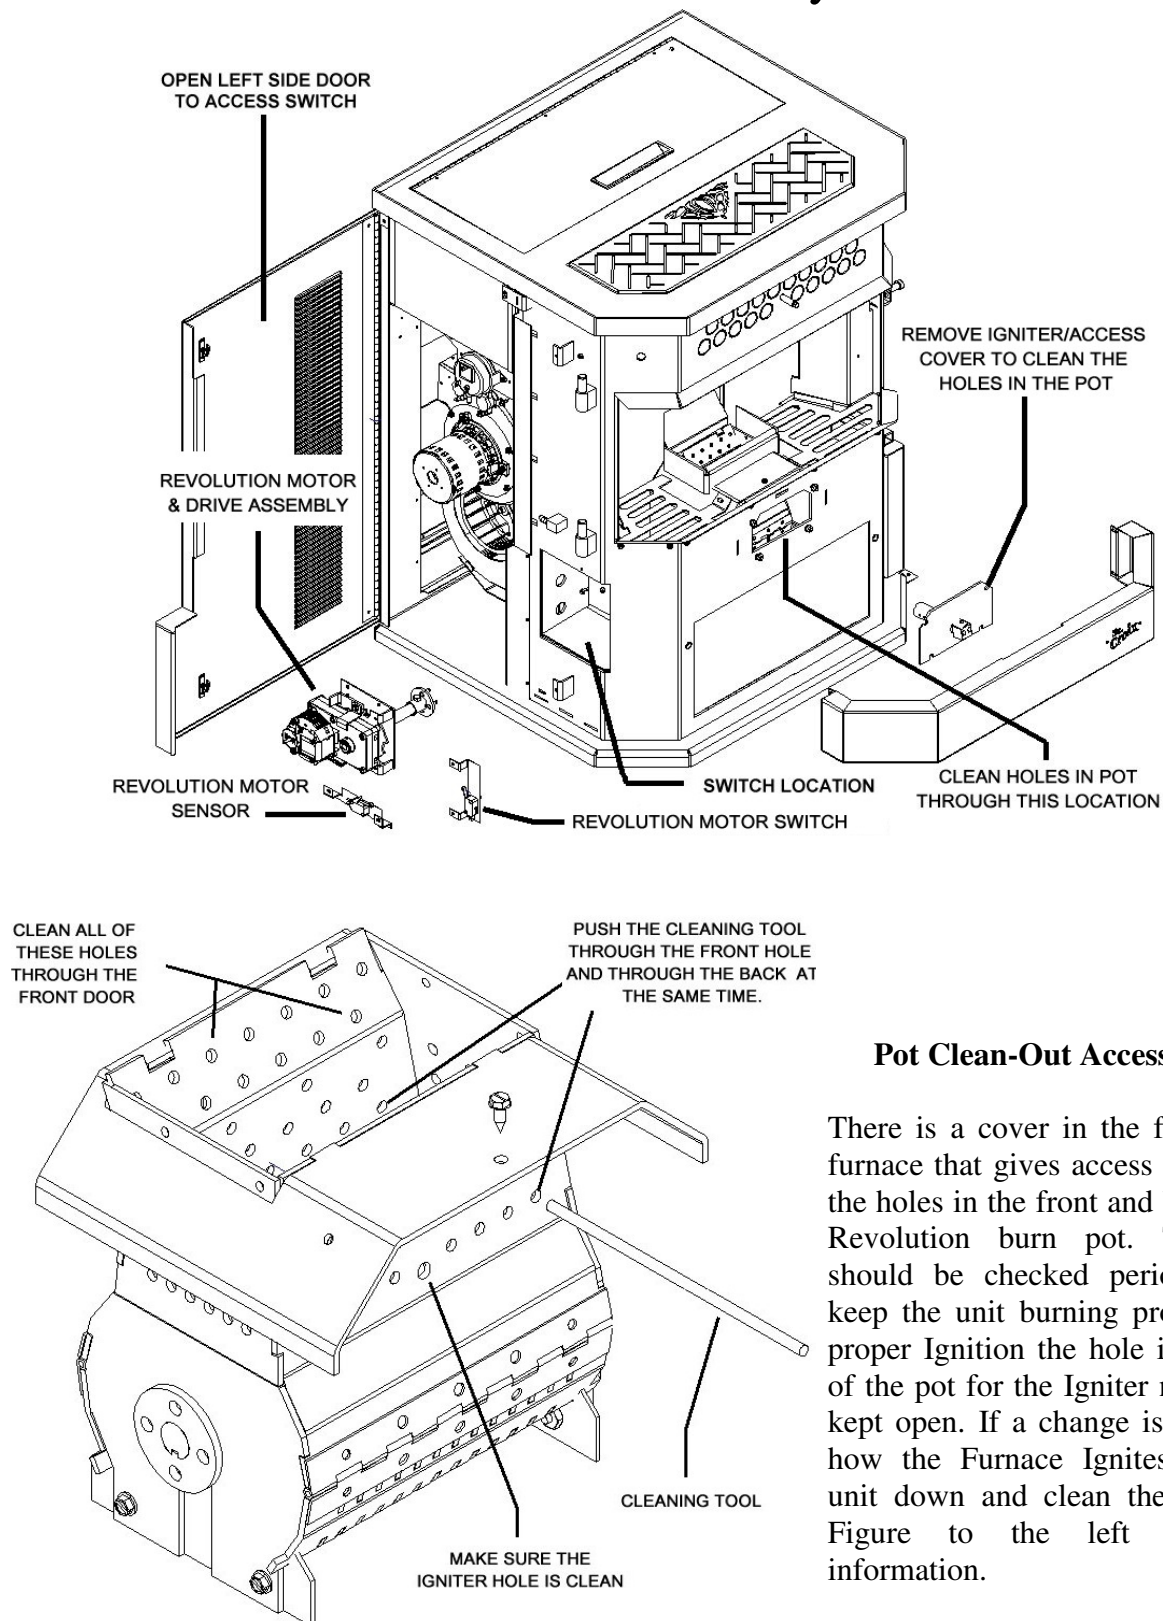
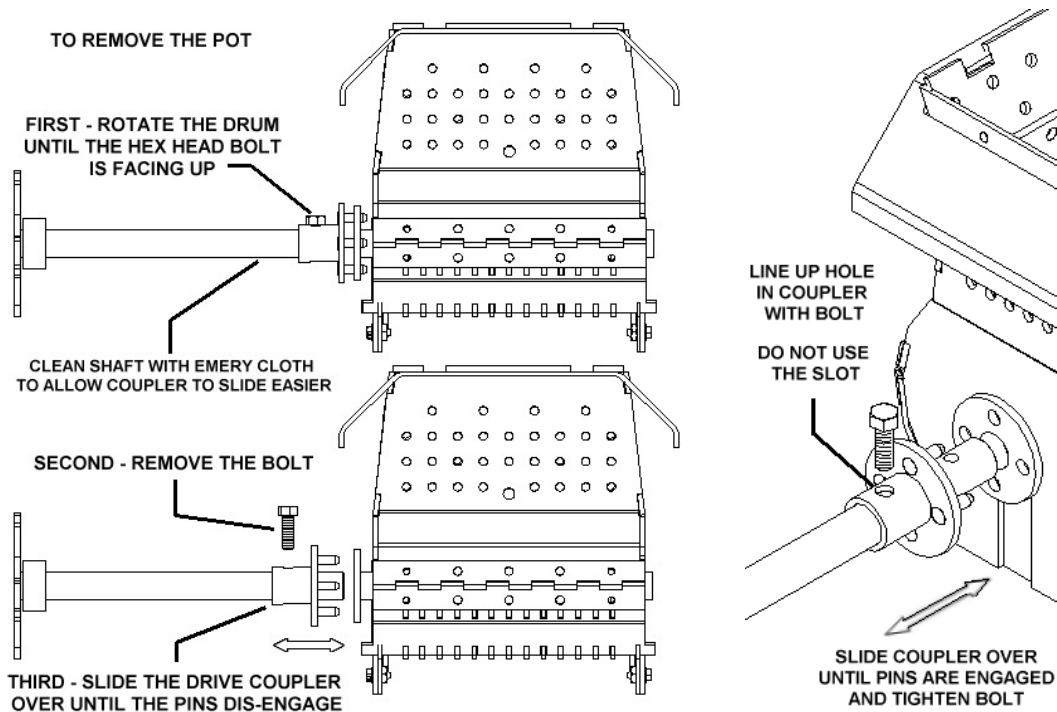

Figure 19
Figure 20
- 1 – Trip the Revolution Motor Switch as shown in figure 19 until the Hex head bolt is facing up as shown in figure 20. Remove the bolt and slide the Drive Coupler over to disengage the pins from the drum. Polish the shaft with some emery cloth if any residue has built up on the shaft during use to allow the Drive Coupler to slide easier.
- 2 – Remove the Igniter cover and Igniter. (See figure 19)
- 3 – Remove the Igniter cover and Igniter. (See figure 19)
- 4 – Remove the side shields. (See figure 19)
- 5 – Remove the screw that holds the burnpot in place and lift the burnpot up and out of the stove. (See figure 19)